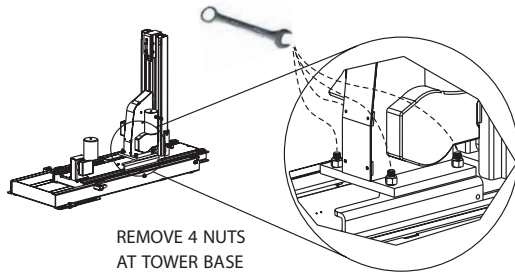

Figure 3-3
2. Remove 4 nuts at tower base. *See Figure 3-3*